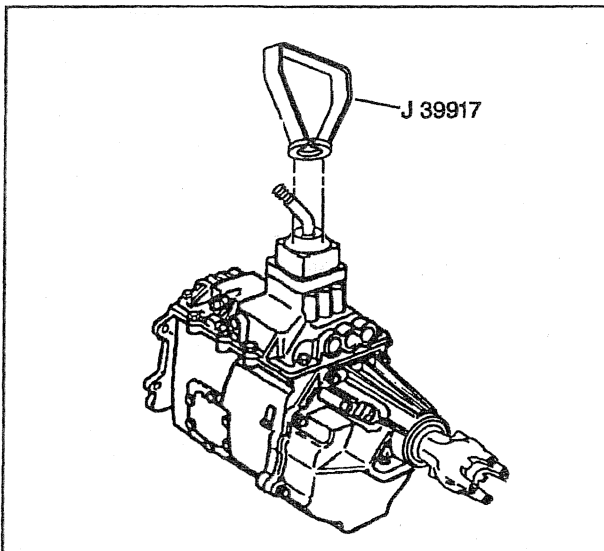

Figure 12—Removal of Shift Lever Ball Socket
- 11. Shift lever ball socket (figure 12) (4500 transmission).